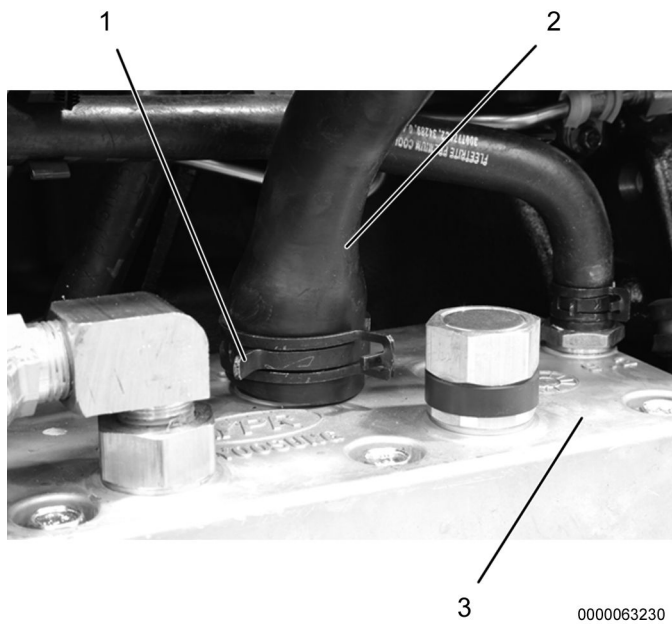

Figure 11. Air Compressor Inlet Hose.
24. Remove cap ZTSE4891 from air compressor (Figure 11, Item 3) and connect air compressor inlet hose (Figure 11, Item 2) onto air compressor with hose clamp (Figure 11, Item 1).